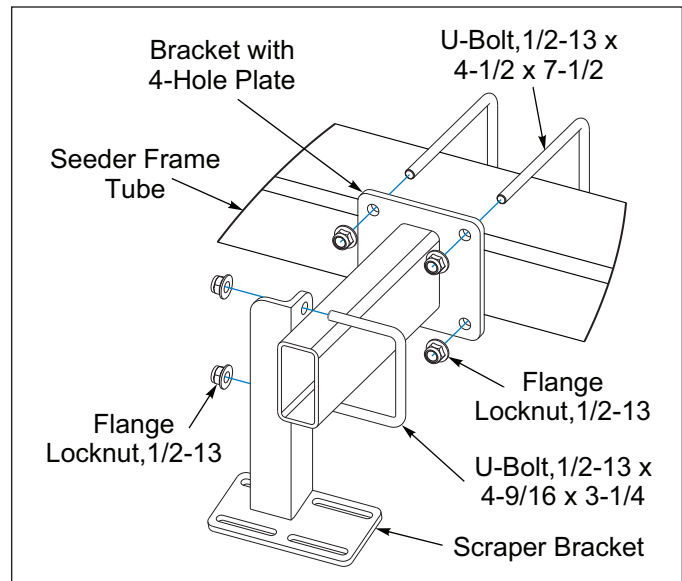

Figure 2-71: Scraper Brackets
3. Attach the Scraper Brackets to the Bracket Tube with a 1/2-13 x 4-9/16 x 3-1/4 U-Bolt and Flange Locknuts. Do Not tighten at this time. See Figure 2-71.